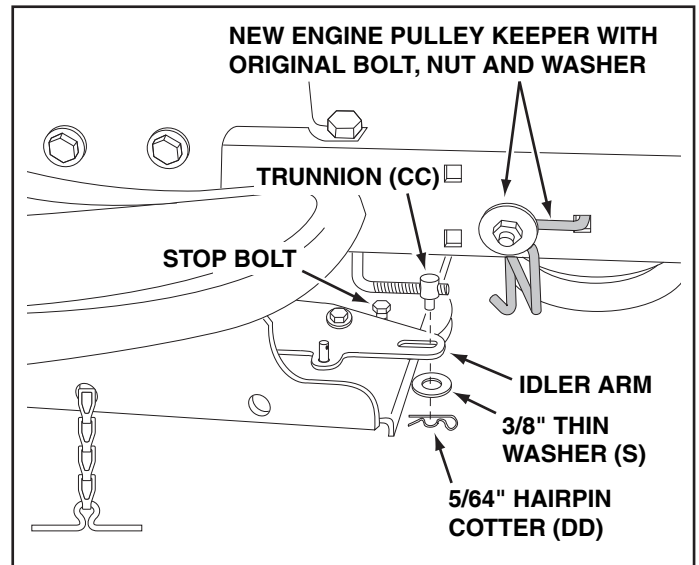

**FIGURE 32** **RIGHT SIDE VIEW**
**STEP 32: (SEE FIGURE 32)**
- Attach the clutch/idler assembly to the tractor frame as follows. Hook the assembly's notched arms onto the two shoulder bolts you assembled to the inside of the tractor frame. Lift the front of the assembly and attach it to the R.H. and L.H. hanger brackets using two pivot lock pins (GG) and 1/8" hairpin cotters (EE).